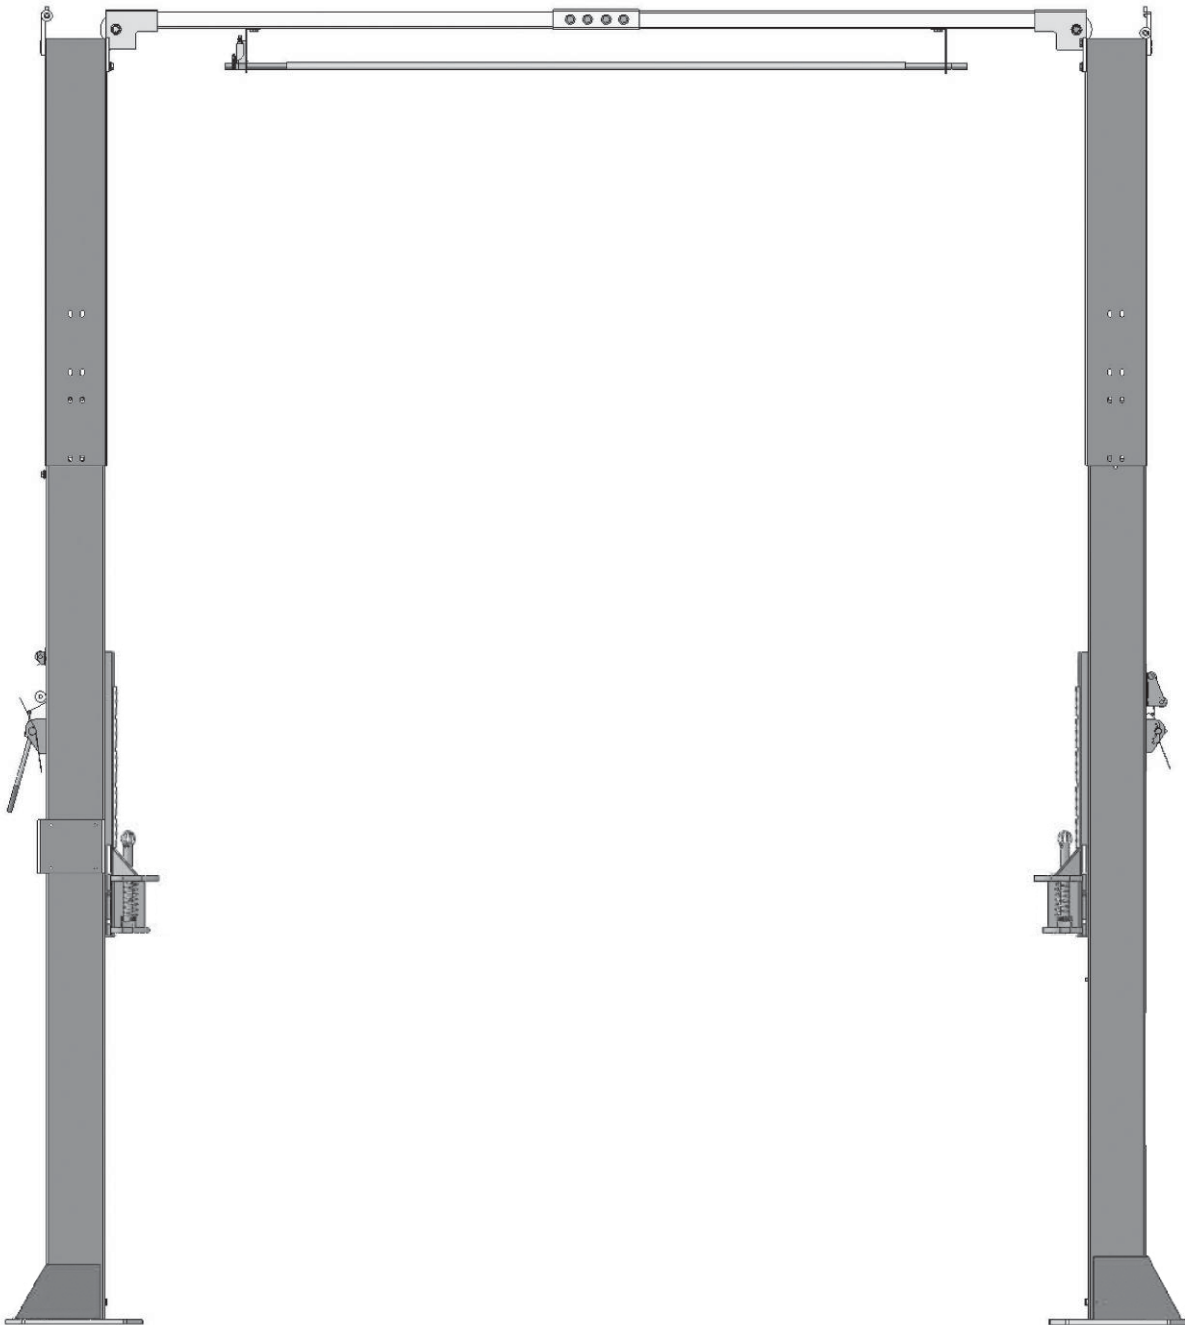

Fig. 20
J. Lift The Carriages Up About 3 Feet By Hand And Lock Them At The Same Level (See Fig. 20)